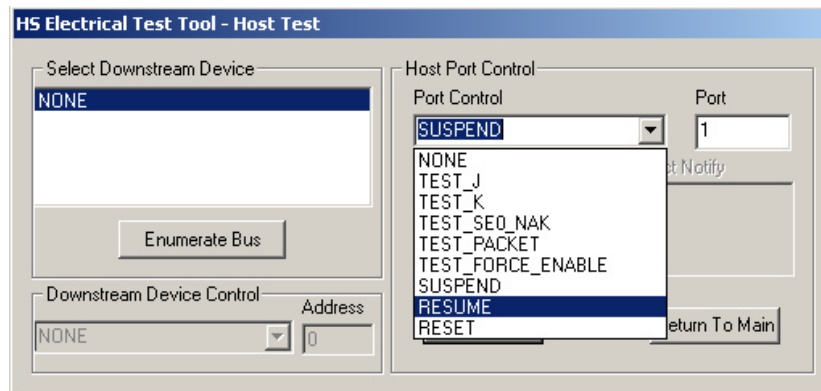

Figure 28. Resume from Suspend Command
8. On the Host Test menu, select RESUME from the Port Control drop down menu and enter the port number. (Figure 28)